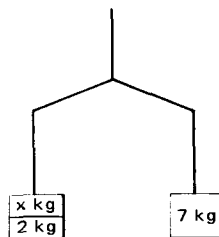

Fig. 1.24
**Equations.** Fig. 1.24 shows a pair of scales which are in balance, that is, the masses in the left-hand pan equal the masses in the right-hand pan.